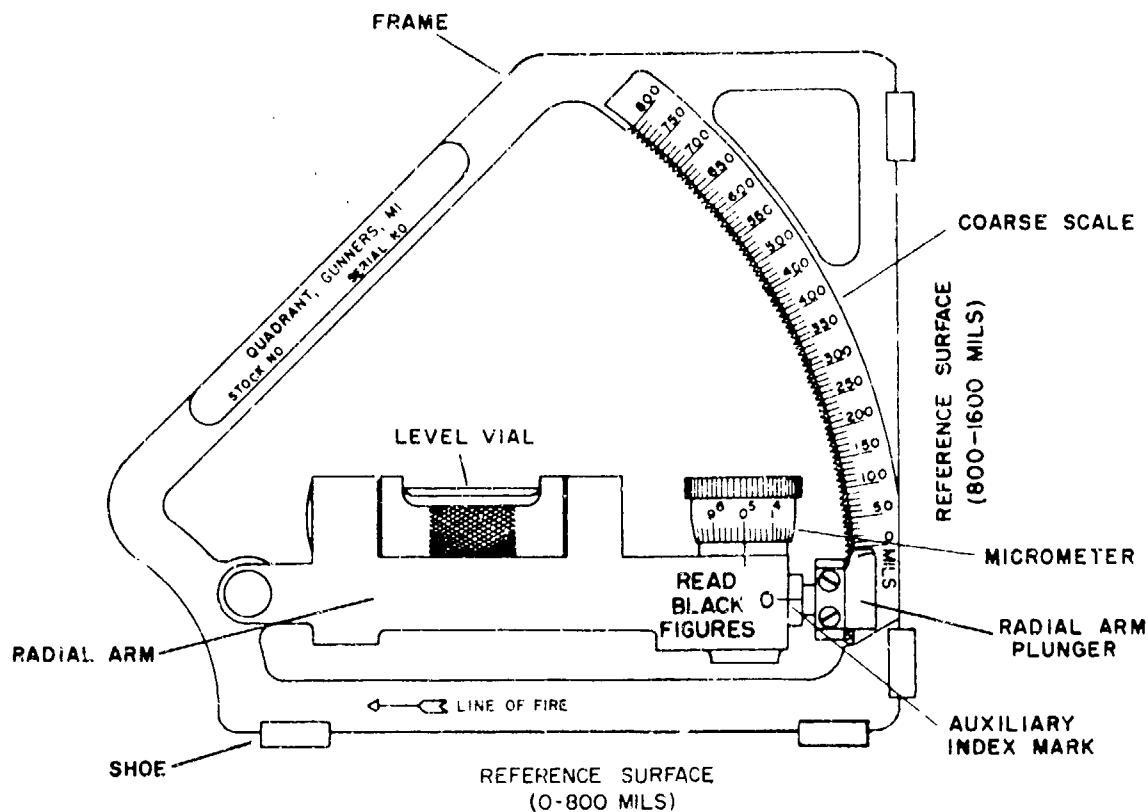

Figure 5-32. Gunner's quadrant M1.
a. The gunner's quadrant (fig 5-32) is used on the 155-mm howitzer primarily during sight test and adjustments; however, it may be used when the sight mount elevation scale is inoperable or to split a mil in elevation in firing a destruction mission. The gunner's quadrant will not measure a true vertical angle when used on the breech ring of a canted weapon.